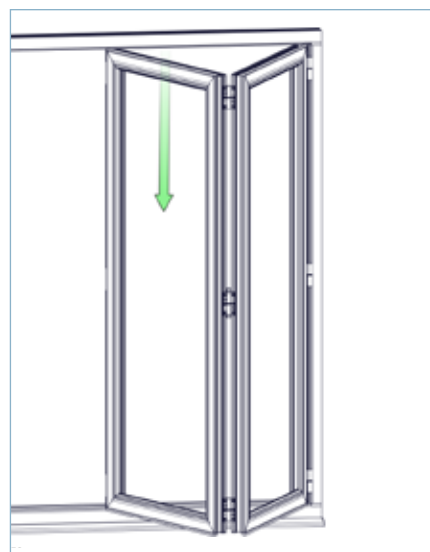

FIG 7C
- ▶ **7.3.** Hang the second door onto the hinges of the first door, again with the label at the top and facing out as shown in FIG 7C.